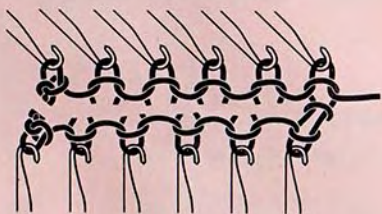

Fig. 85
a) Open at left, fig. 85, lock at right